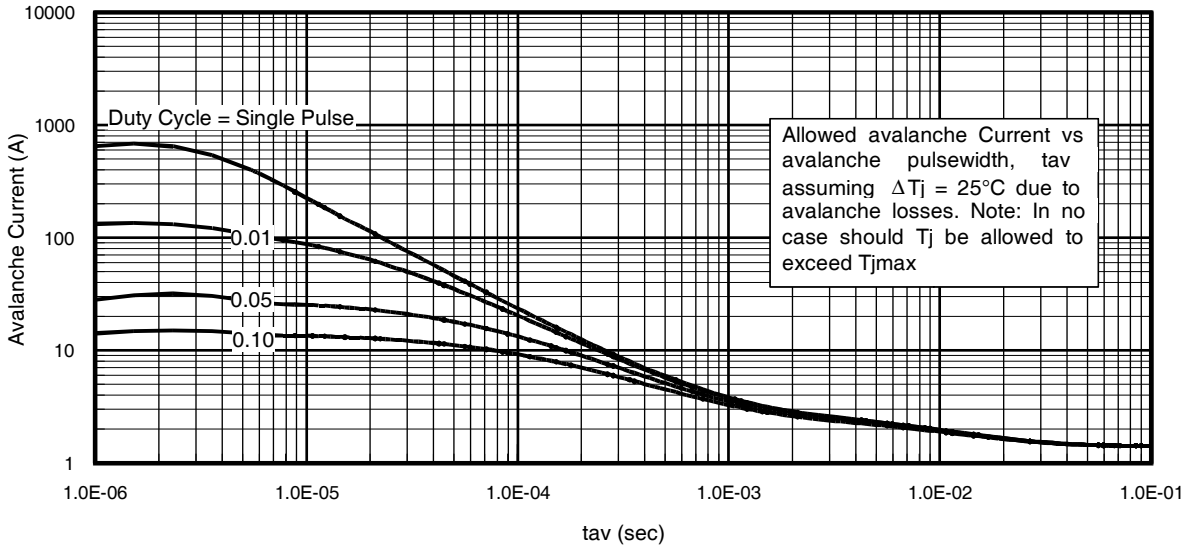

Fig 15. Typical Avalanche Current Vs.Pulsewidth
**Notes on Repetitive Avalanche Curves , Figures 15, 16:**
7.  $\Delta T$  = Allowable rise in junction temperature, not to exceed  $T_{jmax}$  (assumed as  $25^\circ C$  in Figure 15, 16).